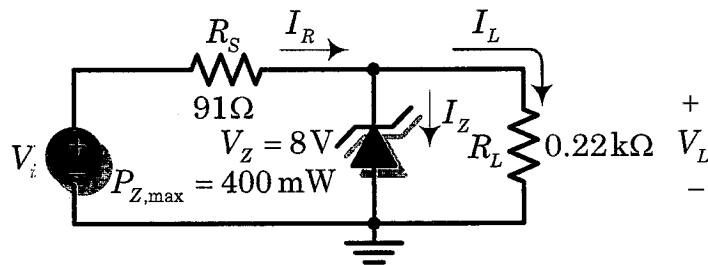

Figure Q2 (b)
- (b) The Zener network of Figure Q2 (b) has a fixed load  $R_L$  and variable input voltage  $V_i$ . Determine the range of values of  $V_i$  that will maintain the Zener diode in the ON state. [8 Marks]
- (c) Consider the common-base network of Figure Q2 (c). Determine: